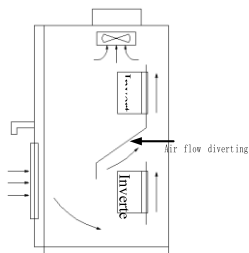

fig.3-2 Mounting of multiple inverters
- (3) When several inverters are installed in one cabinet, they should be mounted in parallel with special incoming and out coming ventilation and special fans. When two inverters are mounted up and down, an air flow diverting plate should be Fixed as shown in Fig.3-2 to ensure good heat dissipation.